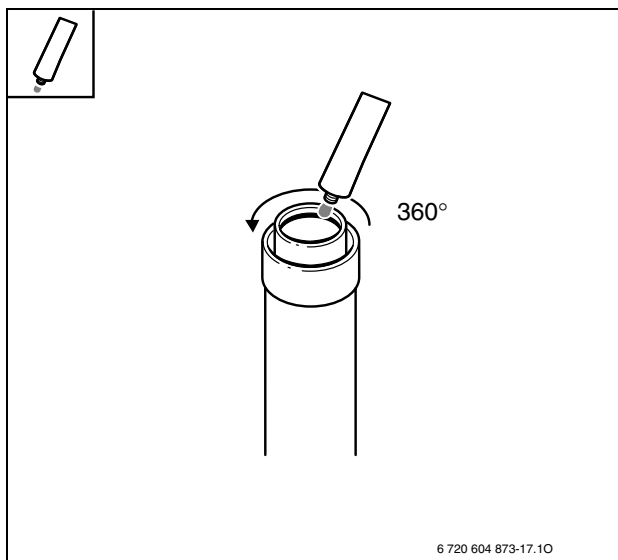

Fig. 1
- ▶ Lightly grease seal on flue side with solvent-free grease (e.g. Vaseline) (Fig. 1).